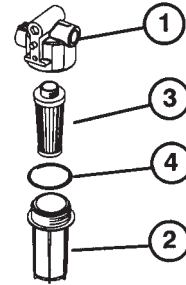

Figure 37
2. Service the air cleaner filters whenever the air cleaner indicator (Fig. 37) shows red, or every 400 hours (more frequently in extreme dusty or dirty conditions). Do not over service air filter.